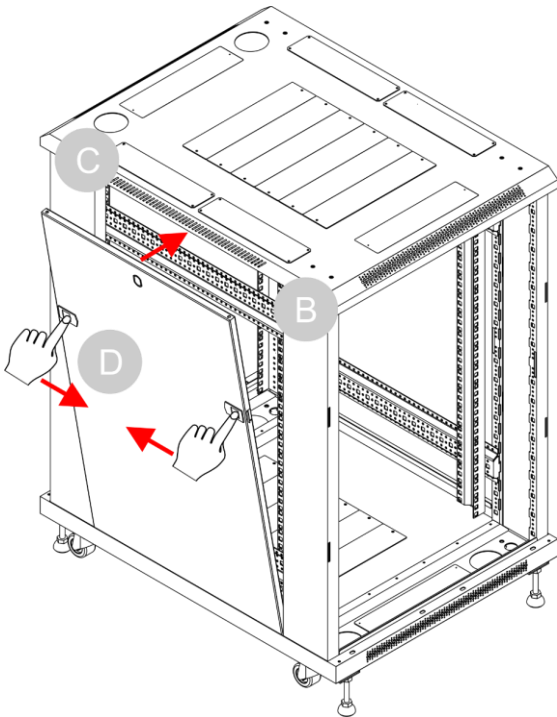

Fig. 37
- 21) Slide the 2 plastic locks of the **side panel (D)** inwards and at the same time carefully close the **side panel (D)**, so that it locks in position, as shown in Fig. 37.